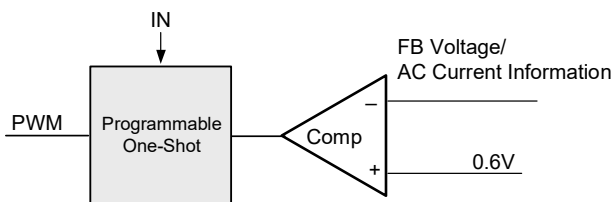

Figure 3. Simplified Control Schematic of AOZ2264NQi-11
The simplified control schematic is shown in Figure. 3. The high-side switch on-time is determined solely by a one-shot whose pulse width can be programmed by one external resistor and is inversely proportional to input voltage (IN). The one-shot is triggered when the internal 0.6V is higher than the combined information of FB voltage and the AC current information of inductor, which is processed and obtained through the sensed lower-side MOSFET current once it turns-on. The added AC current information can help the stability of constant-on time control even with pure ceramic output capacitors, which have very low ESR. The AC current information has no DC offset, which does not cause offset with output load change, which is fundamentally different from other V² constant-on time control schemes.